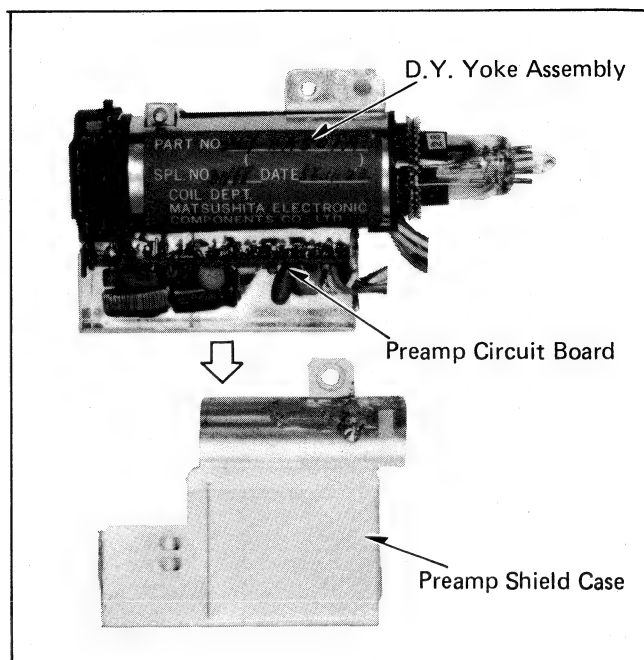

Fig. 7
- 3-6. Unsolder and remove the preamp shield case (right side) (see Fig. 7).